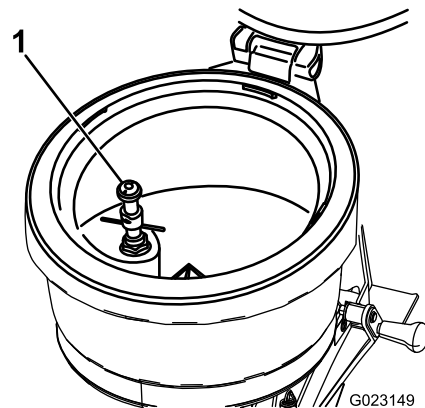

Figure 35
The bottle rinse (Figure 35) is located inside the eductor tank. Use the bottle rinse to remove chemical residue from the inside of the container (bottle) in which the chemical is packaged. The bottle rinse is pressurized with solution from the spray system. The chemical container (bottle) is rinsed with spray-system solution discharged at the spout of the bottle rinse.
- A. Place the rim of the container over the bottle rinse and press down to open the valve; refer to Figure 35 in Bottle Rinse \(page 19\).